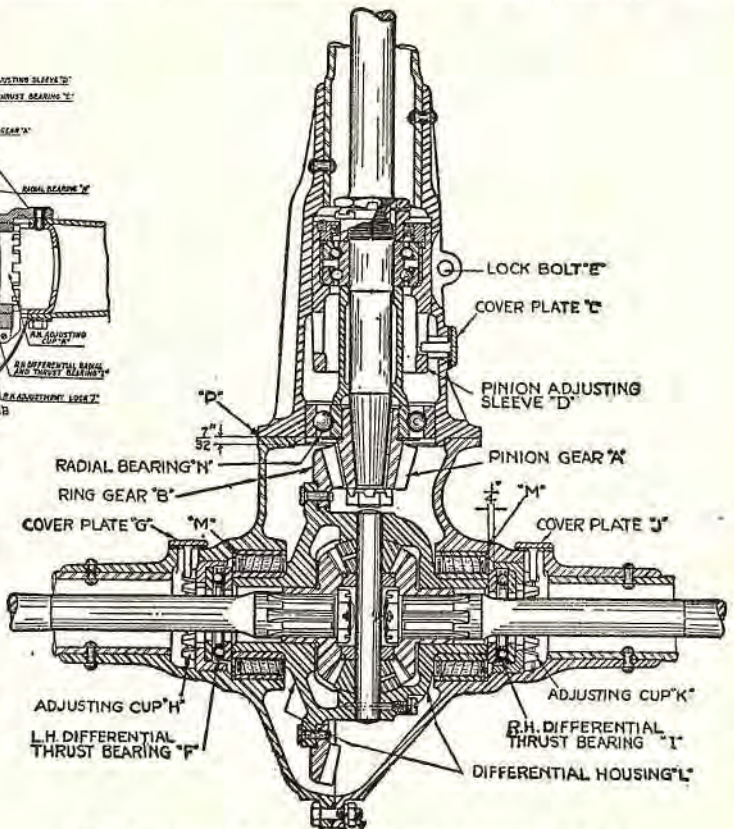

Fig. 21. Oldsmobile (model 47) rear axle as referred to in text.
The differential assembly is mounted on two large Hyatt roller bearings, designated in Fig. 21, as (M). The side thrust on this bearing that is naturally set up by the wheels on uneven roads is taken up by the differential thrust bearings (F) and (I).